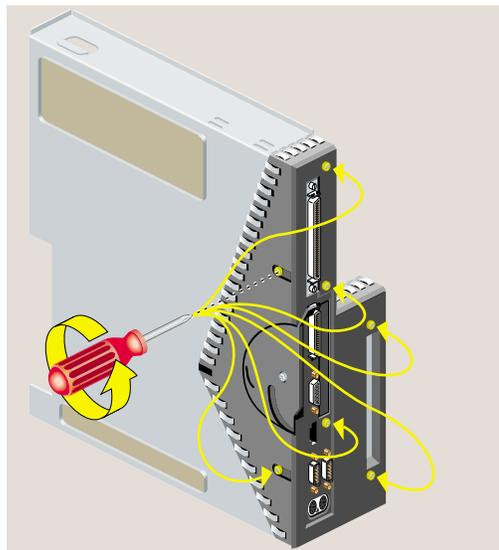

Figure 1 Removing Seven Screws From the Face Plate
- Use a Phillips screwdriver to remove five screws on the rear and two screws on the underside, in the locations shown (Figure 1). Keep the two screws from the underside separate. When reinstalling the faceplate you must use the same screws.